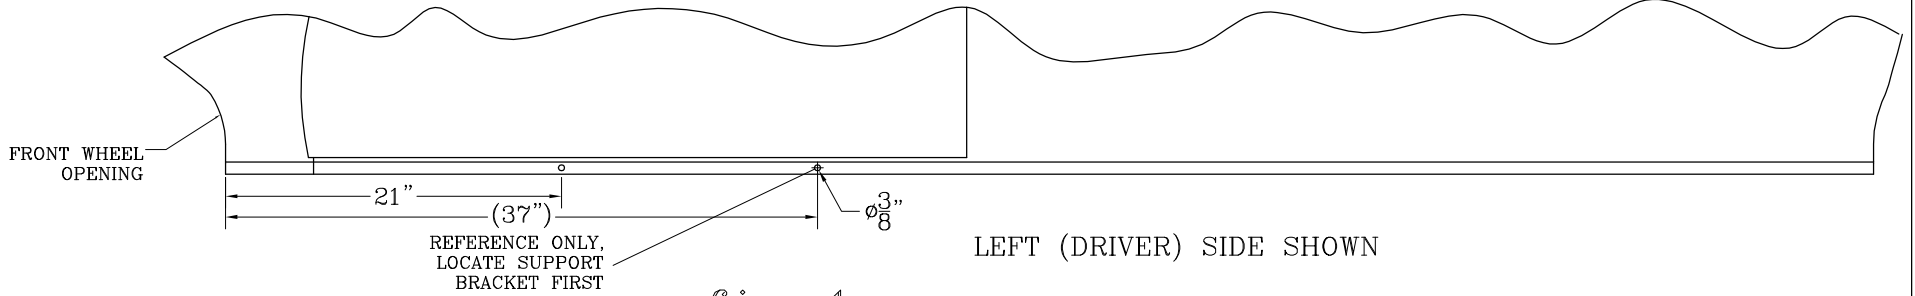

fig. 1
1. DRILL (1) 3/8" DIAMETER HOLE THROUGH THE MIDDLE OF THE PINCH WELD FOR THE BOTTOM MOUNTING HOLE. SEE **FIG.1** TO MARK THE LOCATION FOR THE FRONT BRACKET WHICH IS MEASURED FROM THE FRONT WHEEL WELL OPENING.
2. ASSEMBLE THE SUPPORT BRACKET ASSEMBLY AS SHOWN IN **FIG.2** AND INSERT INTO THE NEAREST FRAME OPENING TO THE RECOMMENDED REAR BRACKET LOCATION (SEE **FIG.1**).
3. USING A 3/8"-16 X 1" BOLT, TWO 3/8" FLAT WASHERS, AND A 3/8"-16 FLANGE NUT (ITEMS #8, 9, 10) ATTACH THE REAR BRACKET TO THE SUPPORT BRACKET ASSEMBLY; DO NOT TIGHTEN AT THIS TIME. HOLD THE BRACKET UP TO THE VEHICLE AS SHOWN AND MARK THE BOTTOM HOLE LOCATION ON THE PINCH WELD. DRILL (1) 3/8" DIAMETER HOLE THROUGH THE MIDDLE OF THE PINCH WELD AT THIS LOCATION.
5. WITH THE (2) BRACKETS IN PLACE AND WITH THE UPPER SURFACE IN CONTACT WITH THE VEHICLE, USE THE TOP (2) HOLES IN THE BRACKET AS A GUIDE AND DRILL (2) 5/32" HOLES THROUGH THE INNER ROCKER PANEL FOR EACH BRACKET. INSTALL THE 1/4" X 3/4" SELF TAPPING SCREWS (ITEM #5) **USE CARE NOT TO OVER TIGHTEN.**